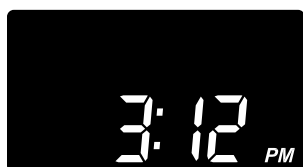

FIG. 24
4. When finished setting the salt level, press the SELECT button. The display returns to the normal time of day screen (Fig. 24).